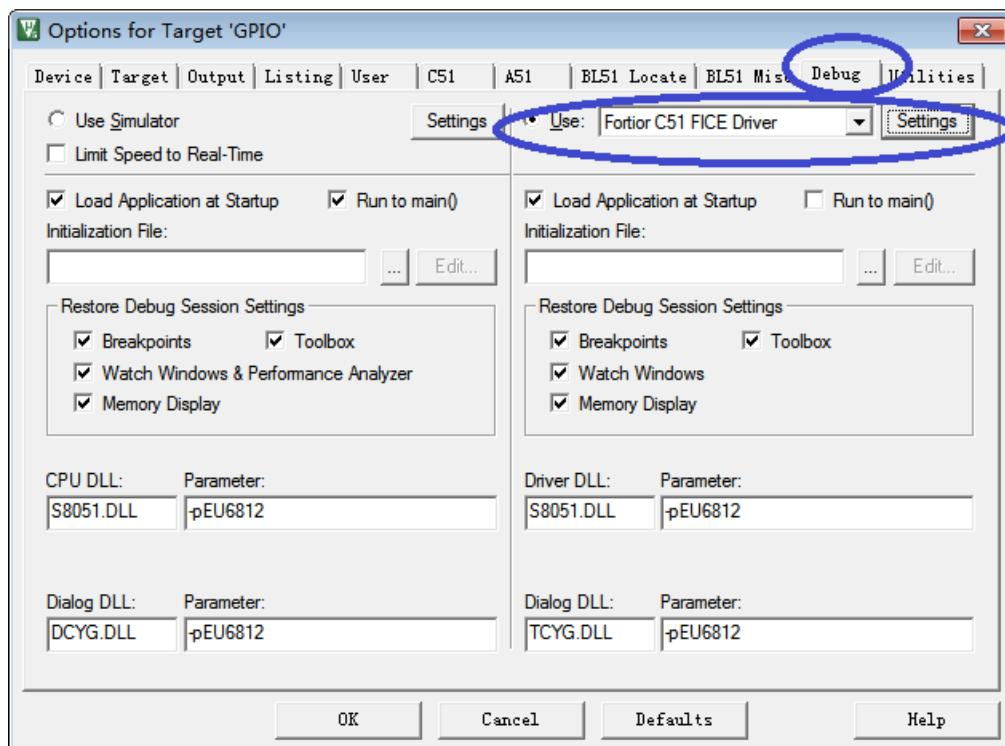

Figure 30-7 Code Protection Configurations
1. Start 8051 IDE, enter Target Options and select Debug tab. As shown in Figure 30-7, click Settings to proceed with the setting;